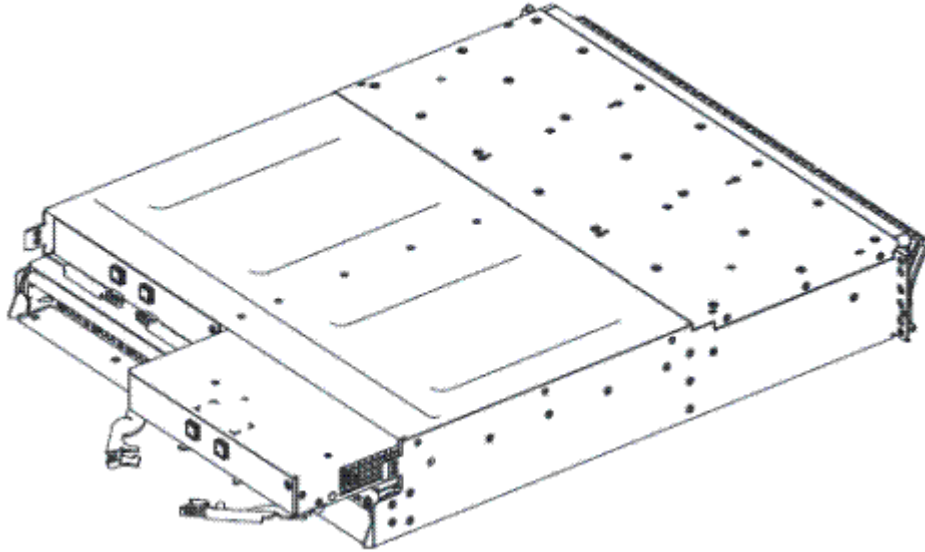

Figure 112. Removing and replacing the IBM Storage FlashSystem expansion canister
6. Open the two release levers as shown in Figure 112 on page 162.